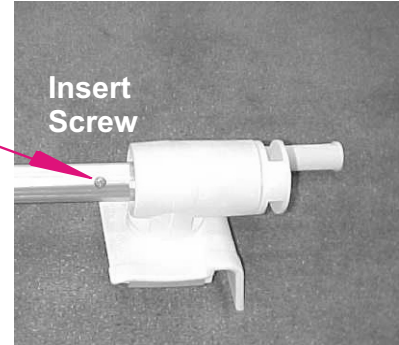

Fig. 7
- Attach each end by installing one self-drilling screw through drill line, 1" (2.5 cm) from the tube end at BOTH ends (see Fig. 7).